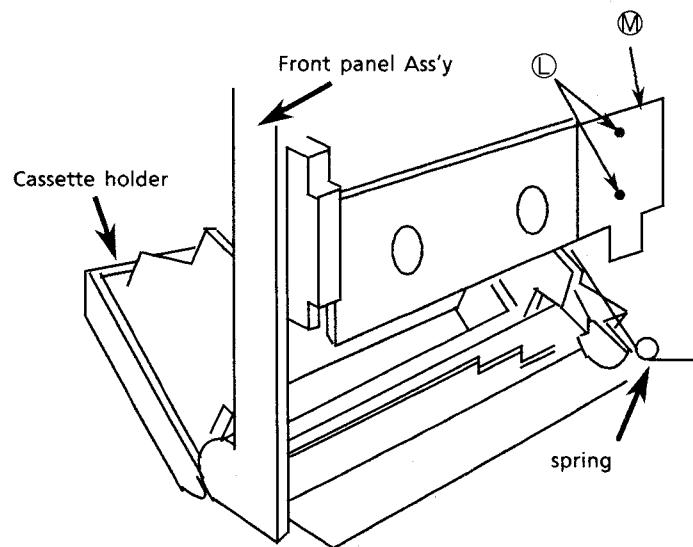

Fig 7
2. Remove the 2 screws ①.
3. Remove the ⑩.
4. Remove the spring hooked on the cassette holder (Fig 7).